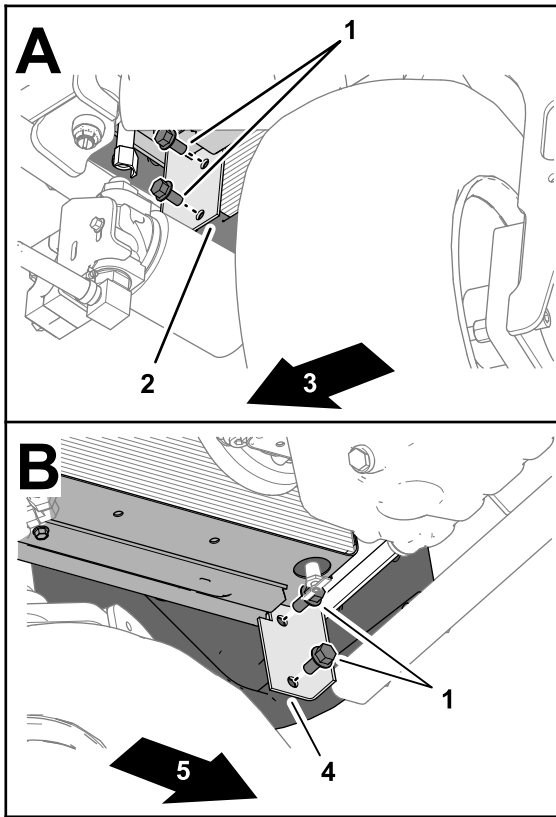

Figure 20
1. At the forward, lower corner of the radiator, remove the 2 flange capscrews (3/8 x 3/4 inch) that secure the radiator bracket to the rear casting of the machine (Figure 20).
2. Remove the 2 flange capscrews (3/8 x 3/4 inch) that secure the radiator bracket to the rear casting of the machine at the other side of the machine (Figure 20).